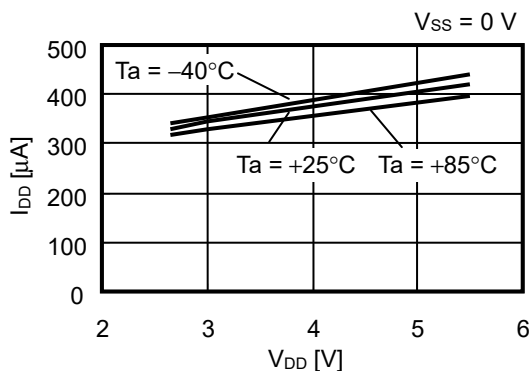

**Figure 19**
- When using the voltage follower circuit (Gain = 1 time), connect a resistor of 470  $\Omega$  or more for the stable operation, as shown in **Figure 19**. The operation may be unstable depending on the value of the load capacitance connected to the output pin, even when the voltage follower circuit is not used. Use the product under thorough evaluation.